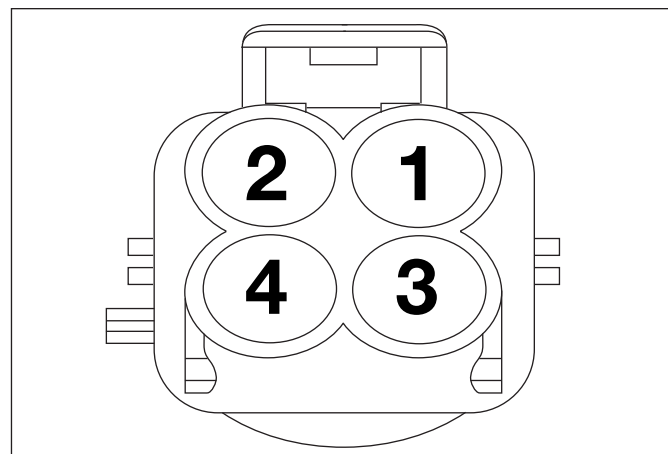

Figure 16
7. Light Gray 4-PIN connector connection references (**Fig. 16**).